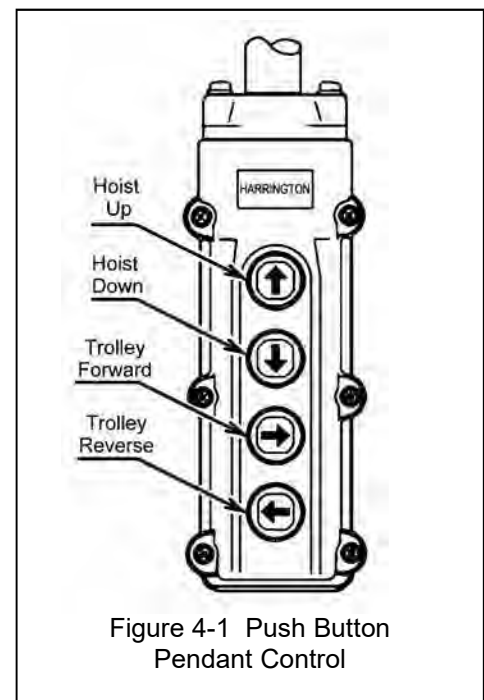

Figure 4-1 Push Button Pendant Control
- 4.3.1 Single Speed Pendant Control - When using the pendant control depress the Up button to raise the hoist's hook or the Down button to lower the hoist's hook as shown in Figure 4-1. Depress the Forward and Reverse buttons to move the trolley horizontally. To stop motion release the buttons.
- 4.3.2 Dual Speed Pendant Control – Pendant controls supplied with dual speed hoists or trolleys have two step control buttons. For low speed depress the button to the first step and for high speed depress the button fully to the second step. Use the Up button to raise the hoist's hook or the Down button to lower the hoist's hook as shown in Figure 4-1. Depress the Forward and Reverse buttons to move the trolley horizontally. To stop motion release the buttons.